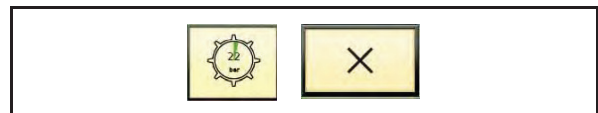

Fig. 173
- The symbols "Pick-up milling cutter Stop" (Fig. 173/left) and "Elevator conveyor Stop" (Fig. 173/right) appear in the terminal.